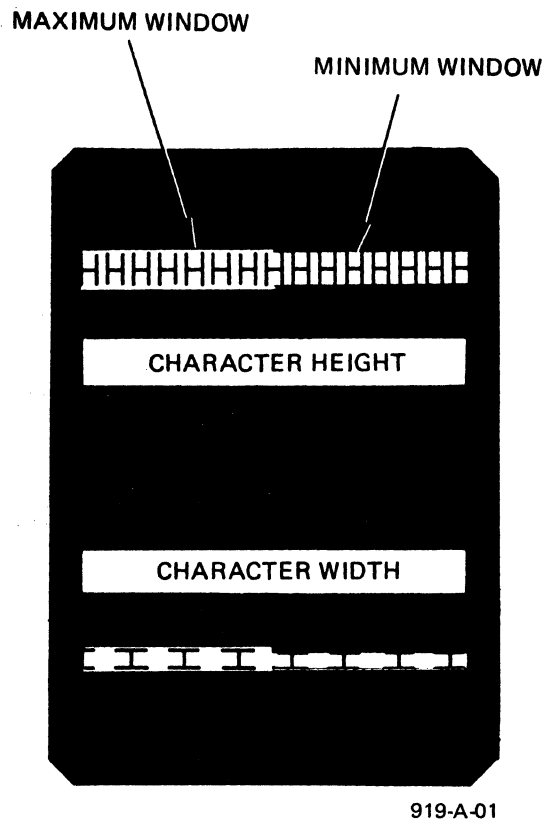

Figure 3-2. Character Alignment Template
- o Character Alignment Template: Q.P.N. 10351-01 for 12 inch displays, and 10351-02 for 14 inch displays. Refer to Figure 3-2.
2. Measure character width at five locations in the test pattern (near each corner and the center). If the Character Template (Q.P.N. 10351-01, or 02 as appropriate) is used, proper character width will appear too large for the Minimum Window and too small for the Maximum Window (refer to Figure 3-2). A non-metallic metric ruler may be used if the template is not available.
2. Measure character height at five locations in the test pattern (near each corner and in the center). If the Character Template (Q.P.N. 10351-01; or 02 as appropriate) is used, proper character height will appear too high for the Minimum Window and too low for the Maximum Window (refer to Figure 3-2). A non-metallic ruler may be used if the template is not available.